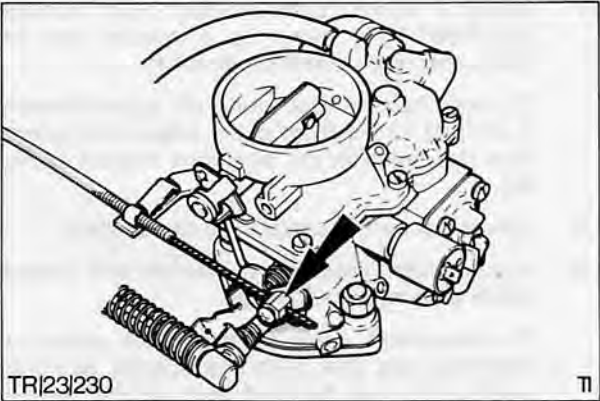

Fig. 89. Choke inner cable securing clamp
3. Check and adjust choke cable, Fig. 89 as follows. Loosen choke inner cable securing screw. Pull inner cable out from dash approximately 6 mm ($\frac{1}{4}$ in), with choke plate fully open take out all slack from inner cable and lock up clamp screw. Push choke fully home.